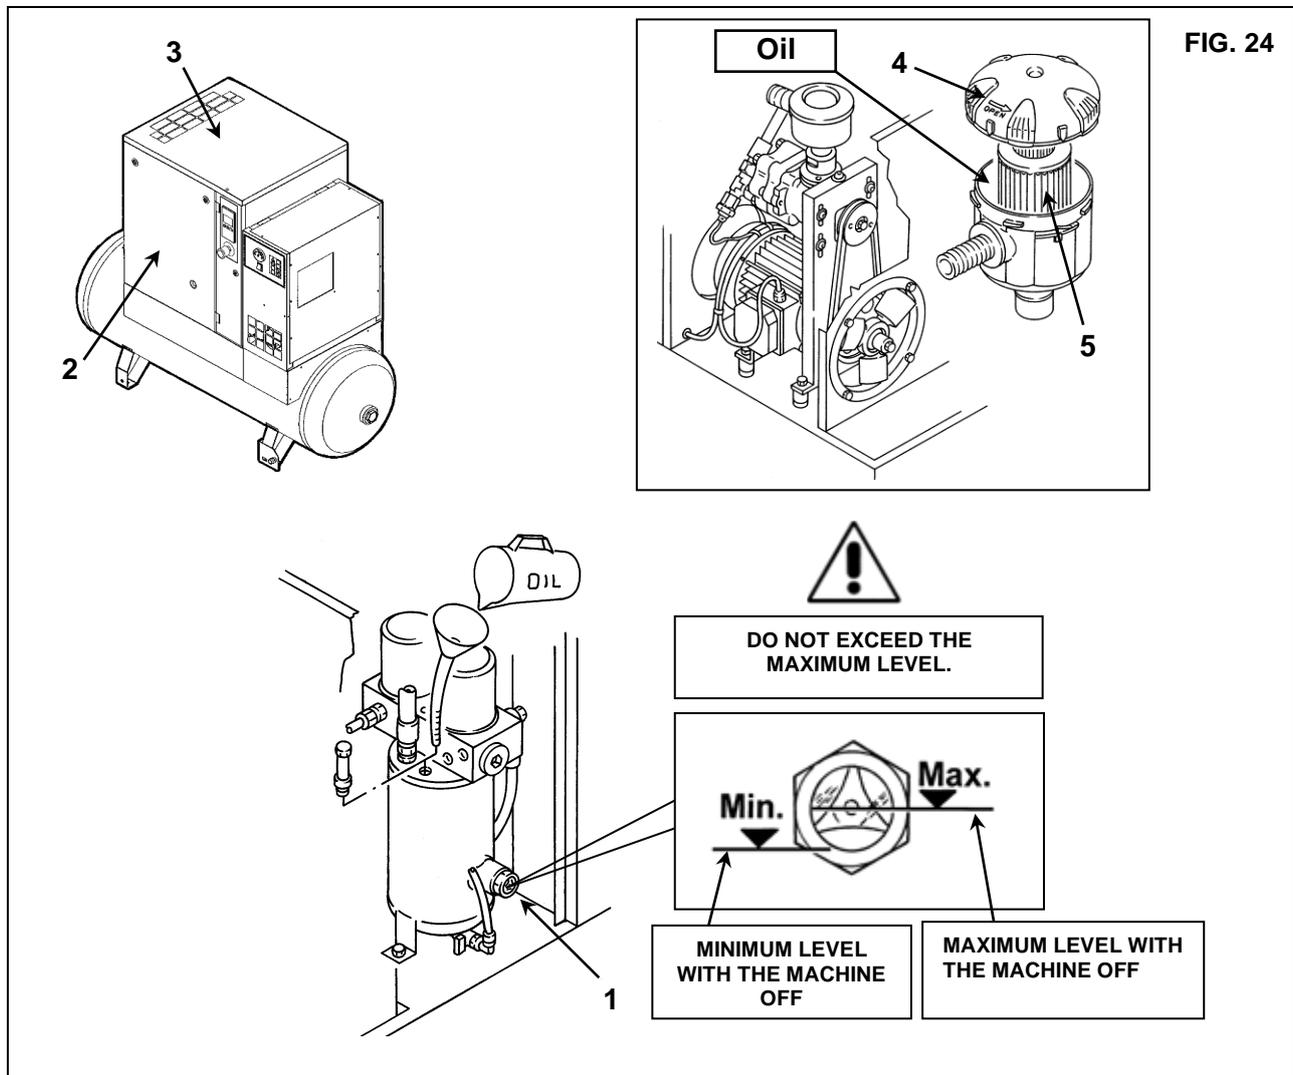

FIG. 24
Check the oil level Ref. 1 Fig. 24; when delivered, the machine is filled with oil, if the oil level is not as intended, top up with the same oil as the original type (use the procedure in the chapter 15.3).
- Remove the protection Ref. 2 Fig. 24
- Remove the fixed protection device (machine cover) Ref. 3 Fig. 24.
- Remove the cover Ref. 4 Fig. 24
- Remove the air filter Ref. 5 Fig. 24
- Reassemble the air filter Ref. 5 Fig. 24
- Reassemble the cover Ref. 4 Fig. 24
20.3 STARTING THE DRYER (FIG.24)